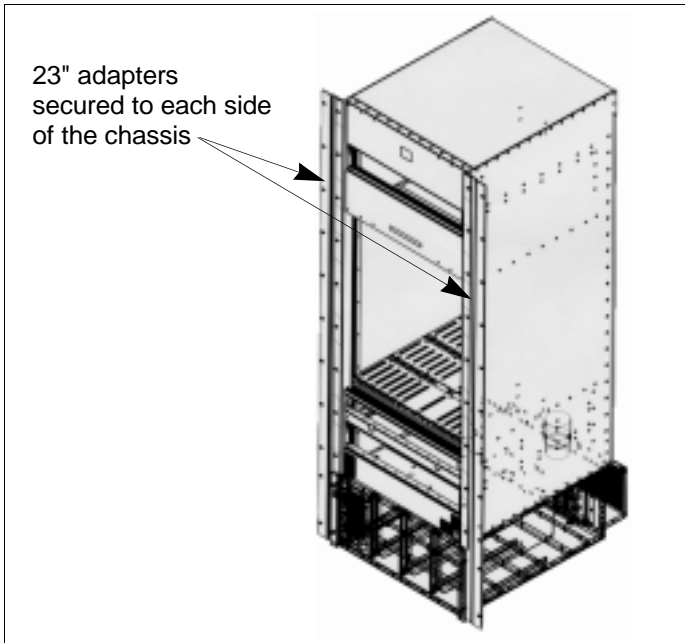

Figure 4 - Finished Adapter Installation
- b. Repeat step 2a for the other adapter. The finished installation should look like Figure 4.